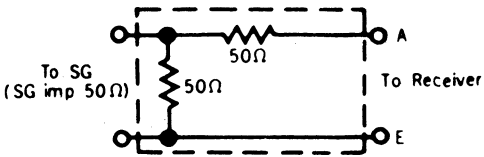

Fig. 6
| (8) | Connect point ▼ through FM dummy antenna Negative side to point ▼ (Refer to fig. 6.) | 86.2MHz 87.3MHz...[ZG] only)(f.min) | Tuning capacitor fully closed. | Headphones Jack (32Ω) (Fabricate the plug as shown in Fig. 9, and then connect the lead wires of the plug to the measuring instrument.) | L2 (FM OSC Coil) (*2) Adjust for maximum output. |